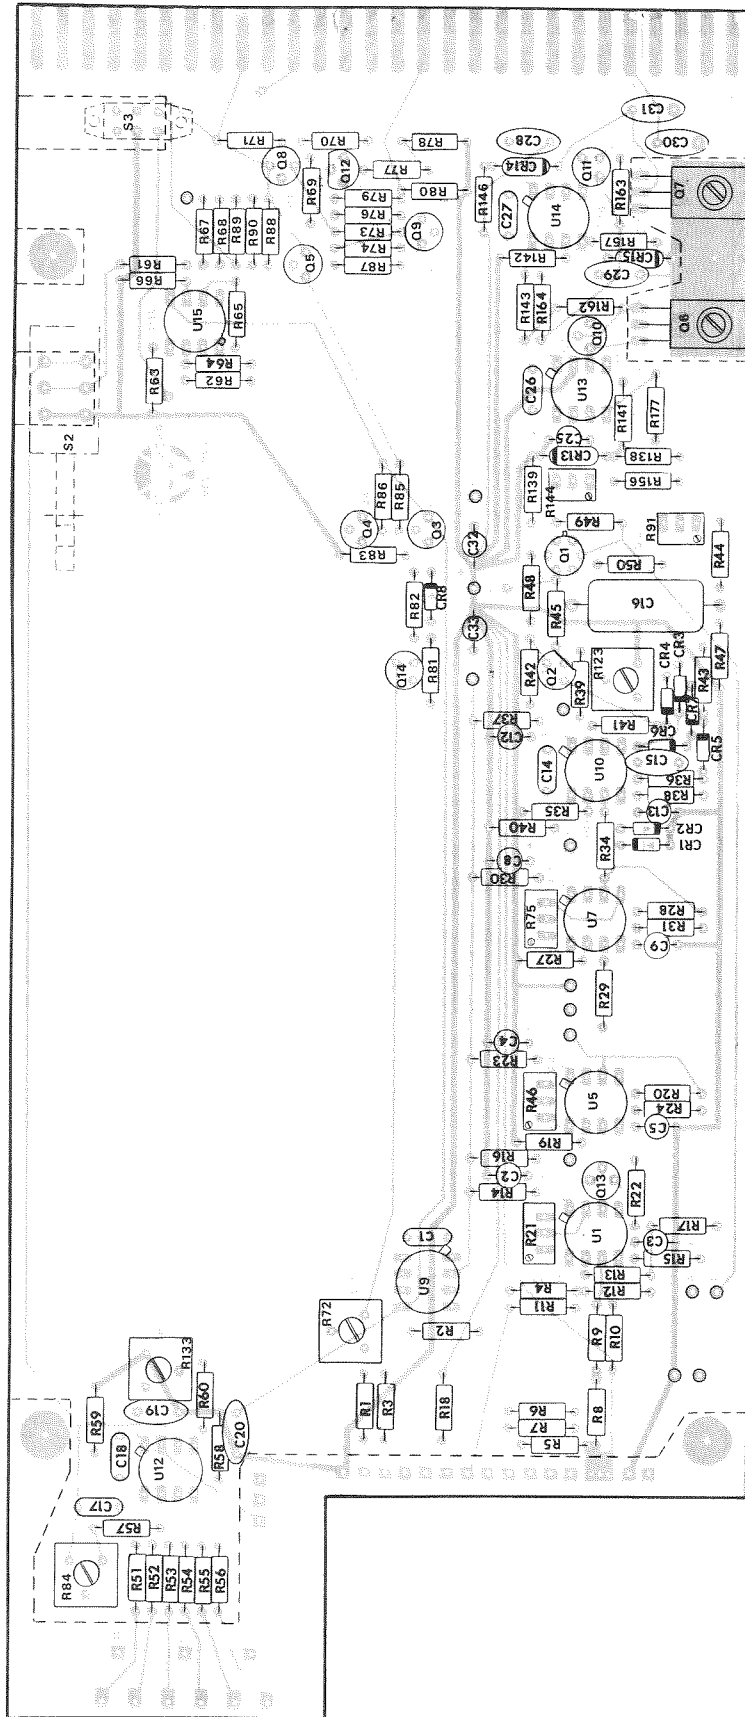

Figure 4-10. Linear Plug-In PC Assembly
2. Connect DVM to TP6 (Figure 4-10).
3. Adjust -15V Adjust R144 until the DVM indicates $-15V \pm 300mV$ (Figure 4-10).
4. Connect DVM to TP7 (Figure 4-10).
2. On the bottom side of the PC board, set Auto Null to On (Figure 4-10).
3. Connect DVM to each test point in Table 4-8 and perform the necessary adjustment (see Figure 4-10 for location of the potentiometers).
1. Connect DVM to TP9 (Figure 4-10).
4. Adjust Bal 6 R133 until DVM reads $0 \pm 1mV$ (Figure 4-10).
3. Connect DVM to TP9 (Figure 4-10).
4. Adjust Gain Cal R84 until DVM reads $+4V \pm 100\mu V$ (Figure 4-10).